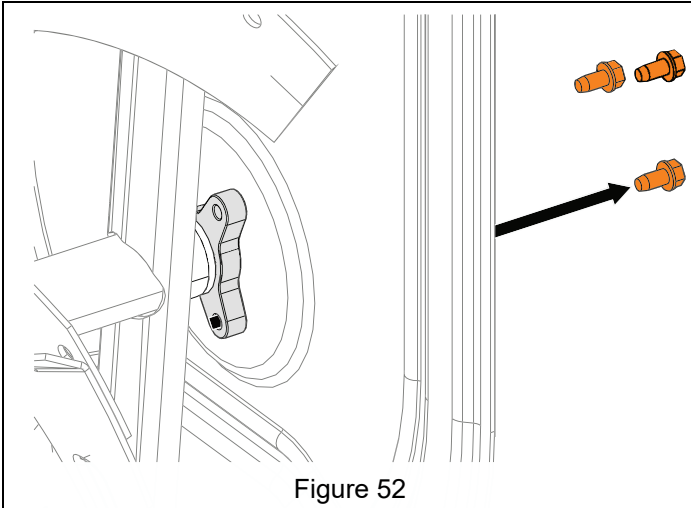

Figure 52
7. Remove hardware retaining support bushings to auger housing. See Figure 52.
7. Remove hardware securing auger bushings to auger housing. See Figure 52.